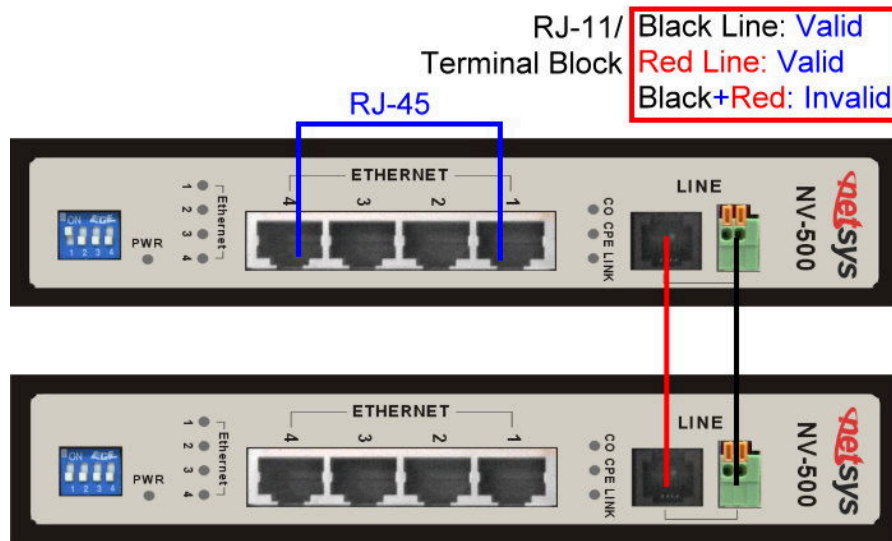
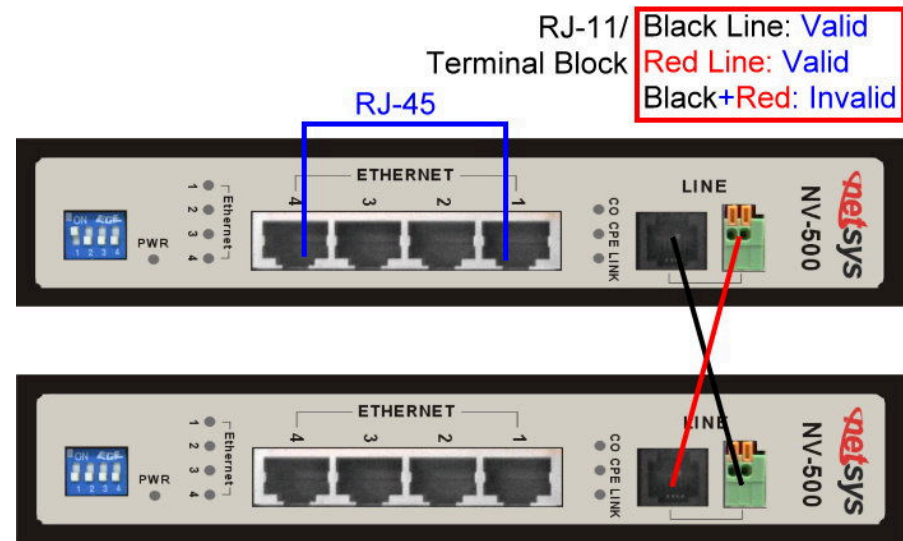

Figure 2.6.1 NV-500 line ports straight connection
Figure 2.6.2 NV-500 line ports crossover connection
- ◆ The line port has 2 connectors: RJ-45 and terminal block. It is used to connect from NV-500(CO) using single pair phone cable to NV-500(CPE) bridge side (point to point solution). Take note that NV-500 line port cannot be used at the same time. Either RJ-11 port is connected or terminal block is connected using straight connection (Figure 2.6.1) or cross-over connection(Figure 2.6.2)